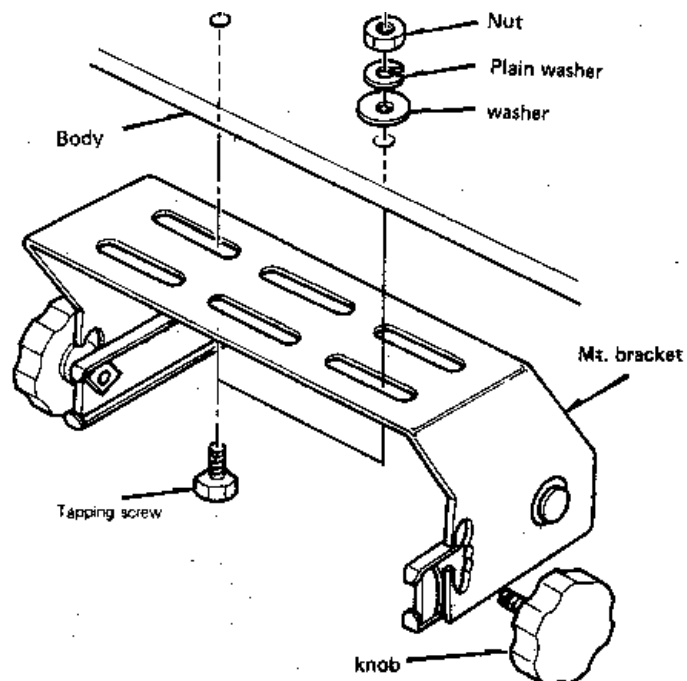

Fig. 5
- e) The vehicle mounting bracket can be used as a template to locate and mark the mounting holes. (refer to Fig. 5)